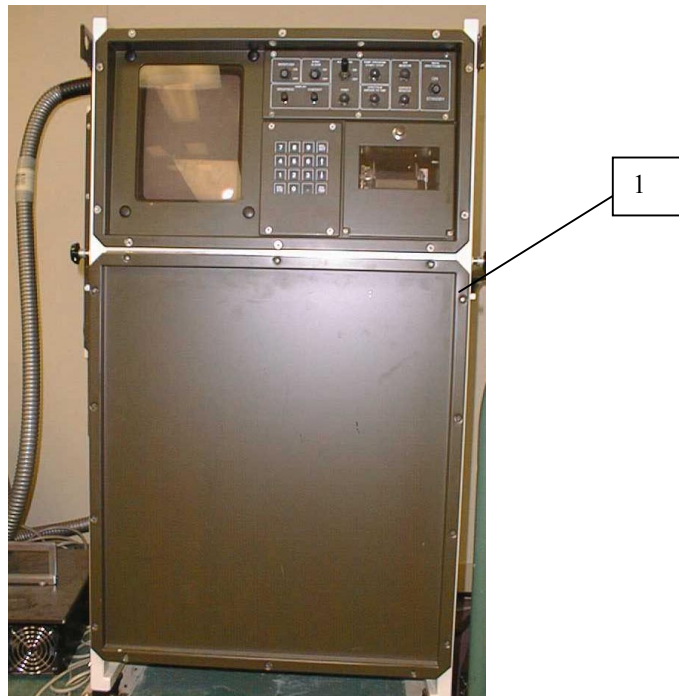

Fig.21 Screw the front panel back in.
- (8) Screw the front panel down tight with the allen key. Make sure that all screws are uniformly tightened with the same torque value (Fig.21 No.1).